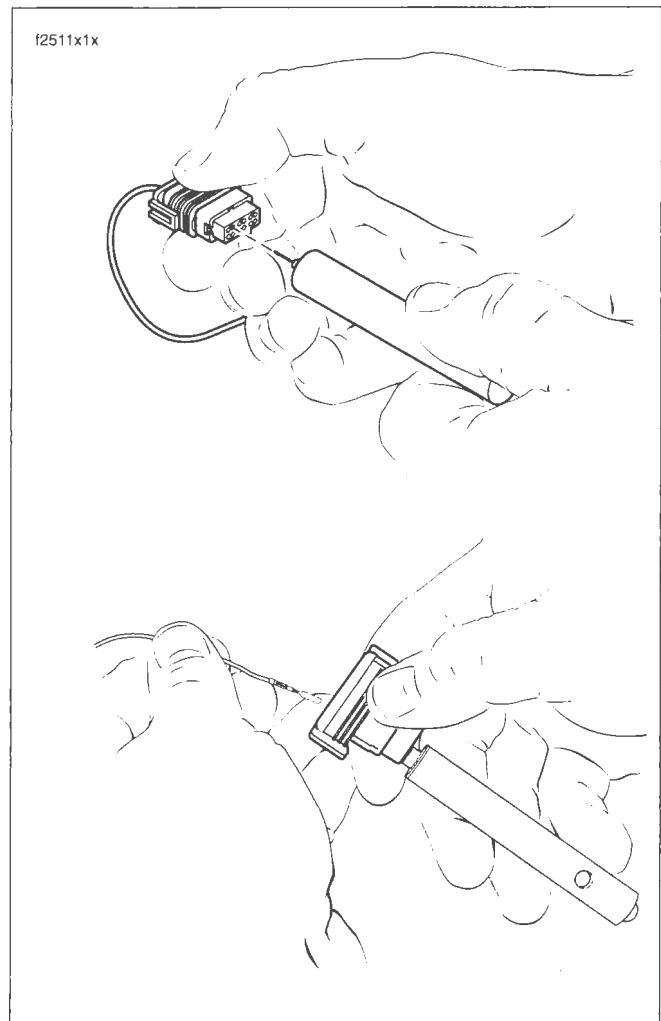

Figure B-46. Insert Tool and Remove Terminal
5. See Figure B-46. Push the adjacent terminals all the way into the connector housing and then insert tool into hole until it bottoms.